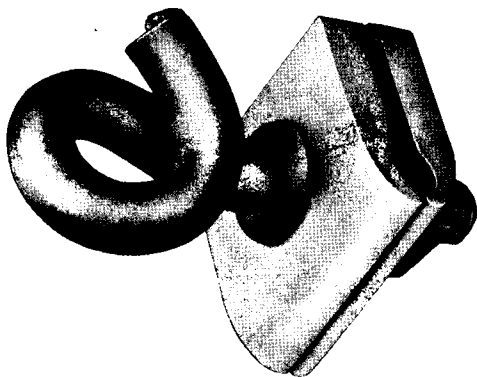

Fig. 1—E Span Clamp
**1.03** ♦The E Span Clamp (Fig. 1) was designed to be used on suspension strand and the jacketed strand of self-supporting cable. *However, when the E Span Clamp is used on suspension strand supporting lashed lead sheath cable, a B Cable Guard must be placed around the cable beneath the Span Clamp to provide mechanical protection from the jaws of the clamp (Fig. 5).*♦